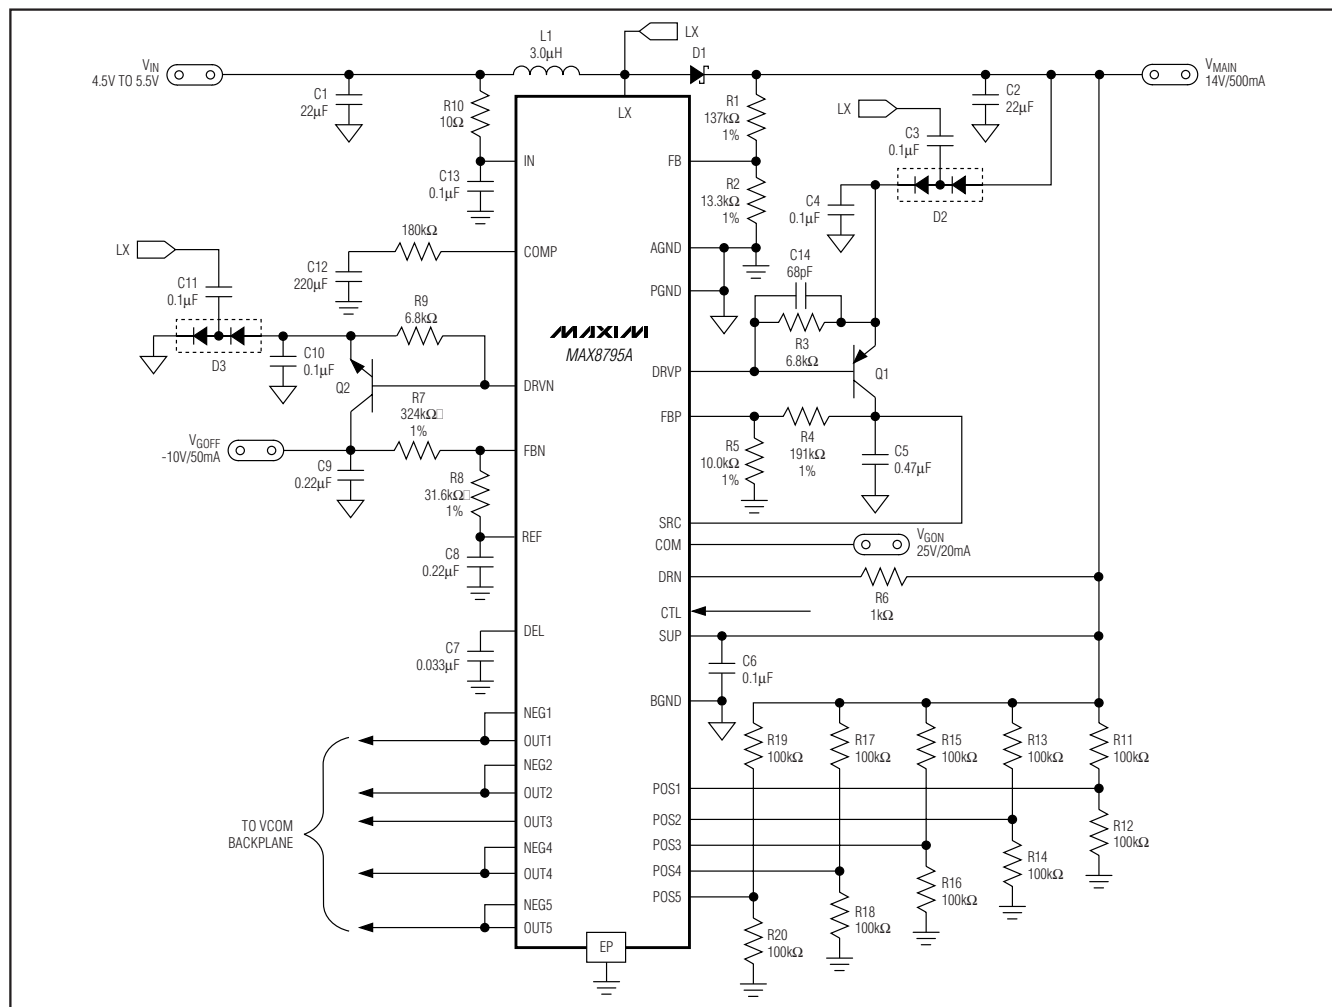

Figure 1. Typical Operating Circuit
(Circuit of Figure 1, $V_{IN} = 5V$, $V_{MAIN} = 14V$, $V_{GON} = 25V$, $V_{GOFF} = -10V$, $T_A = +25^\circ C$, unless otherwise noted.)
The MAX8795A typical operating circuit (Figure 1) is a complete power-supply system for TFT LCDs. The circuit generates a +14V source-driver supply and +25V and
-10V gate-driver supplies. The input voltage range for the IC is from +2.5V to +5.5V. The listed load currents in Figure 1 are available from a +4.5V to +5.5V supply. Table 1 lists some recommended components, and Table 2 lists the contact information of component suppliers.
The gate-on linear-regulator controller (REG P) is an analog gain block with an open-drain n-channel output. It drives an external pnp pass transistor with a $6.8\text{k}\Omega$ base-to-emitter resistor (Figure 1). Its guaranteed base-drive sink current is at least 1mA . The regulator including Q1 in Figure 1 uses a $0.47\mu\text{F}$ ceramic output capacitor and is designed to deliver 20mA at 25V . Other output voltages and currents are possible with the proper pass transistor and output capacitor. See the *Pass-Transistor Selection* and *Stability Requirements* sections.
The gate-off linear-regulator controller (REG N) is an analog gain block with an open-drain p-channel output. It drives an external npn pass transistor with a 6.8k Ω base-to-emitter resistor (Figure 1). Its guaranteed base-drive source current is at least 1mA. The regulator including Q2 in Figure 1 uses a 0.47 μ F ceramic output capacitor and is designed to deliver 50mA at -10V. Other output voltages and currents are possible with the proper pass transistor and output capacitor (see the *Pass-Transistor Selection* and *Stability Requirements* sections).
REG N is typically used to provide the TFT-LCD gate drivers' gate-off voltage. A negative voltage can be produced using a charge-pump circuit as shown in Figure 1. REG N is enabled after the voltage on REF exceeds 1.0V. Each time it is enabled, the control goes through a soft-start routine that ramps down its internal reference DAC from VREF to 250mV in 128 steps.